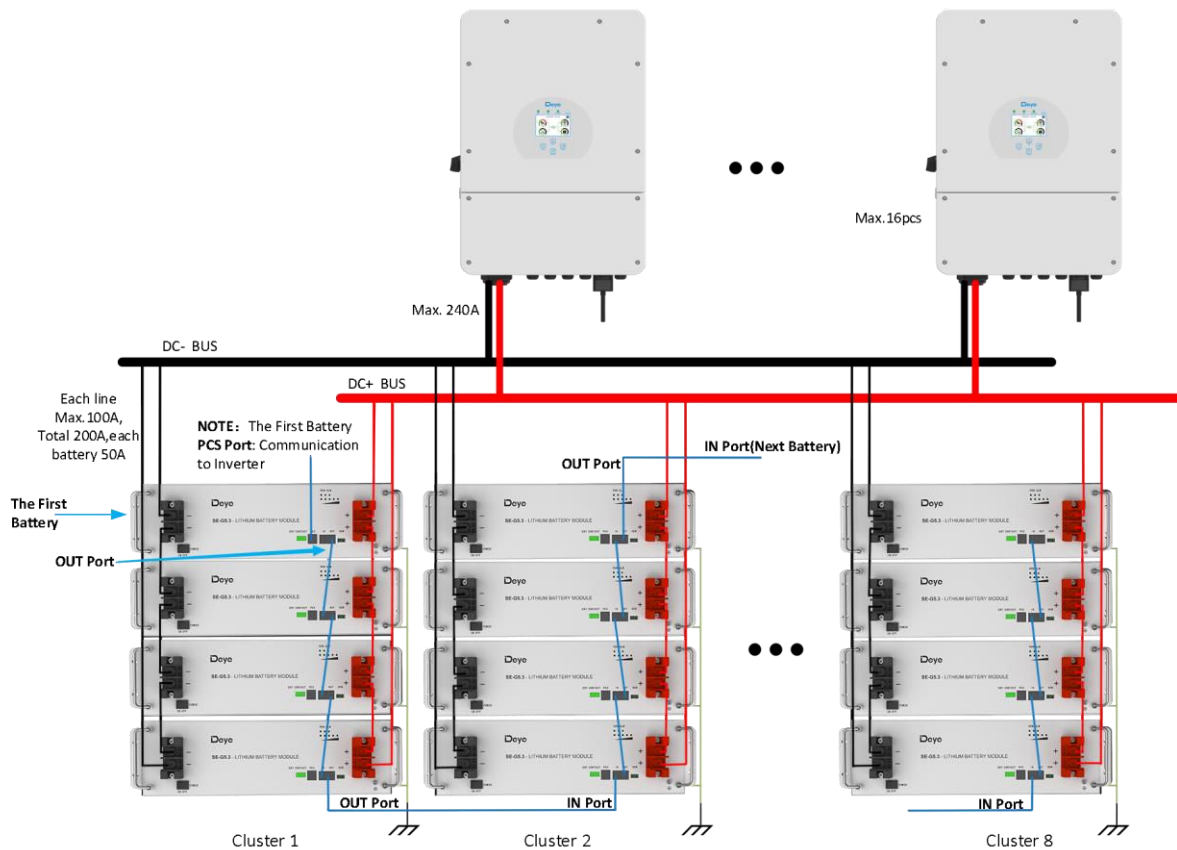

Figure 5-4: Multiple Batteries Connections
5.2.1. As shown in Figure 5-4, following the cable connection method of the single battery, connect the positive and negative cables between the Battery 1 and the busbar, Battery 2 and the busbar, and Battery N and the busbar respectively.
5.2.2. As shown in Figure 5-4, connect the communication line (a standard RJ45 network cable) between the adjacent batteries.